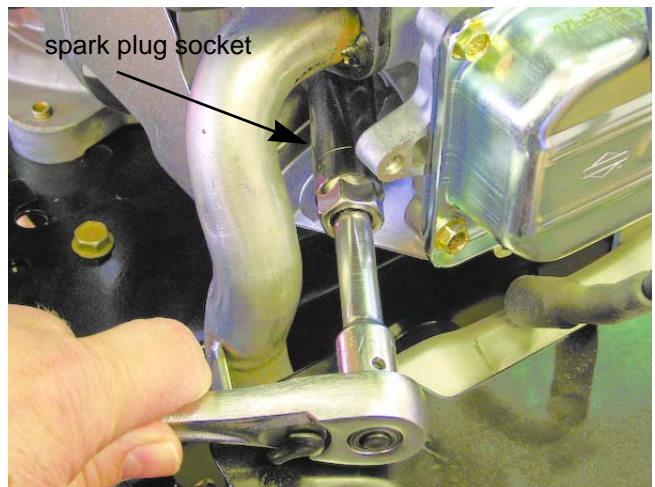

Figure 9.2
- 1b. Remove the spark plug(s) with the appropriate spark plug socket. See Figure 9.2.